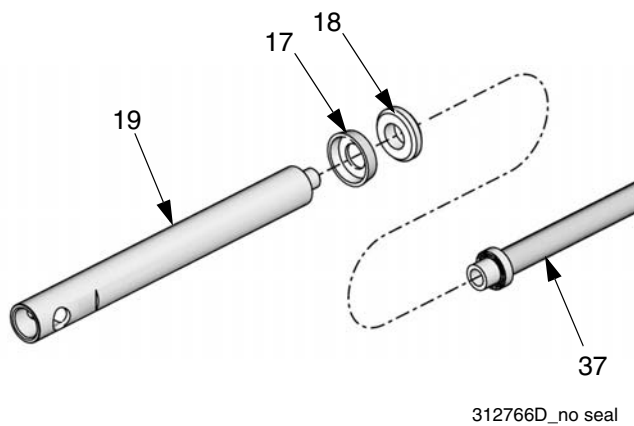

FIG. 17
1. Lubricate packing (17) and bearing (18) with no. 2 lithium-based grease.
2. Install the bearing (18), and cup packing (17) with the lips facing down on the pump connecting rod (37). See FIG. 17.